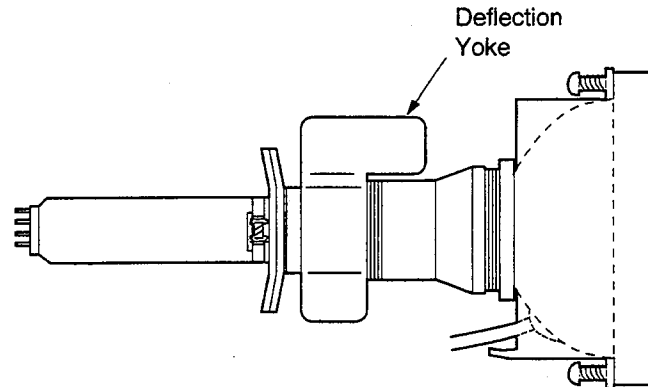

Fig. 6-7
15. Remove the Deflection Yoke from the neck of the CRT. [Fig. 6-7]
2. Install the Deflection Yoke on the CRT neck. [Fig. 6-7]